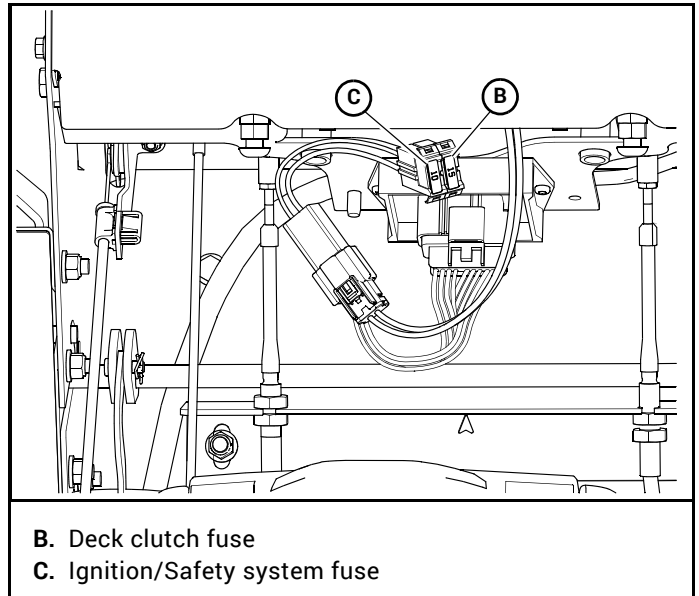

Figure 4-2
- B. Deck clutch fuse (15 amp)** – This fuse protects the deck clutch. It is located under the right front of the control panel. Figure 4-2
- C. Ignition/Safety system fuse (10 amp)** – This fuse protects the ignition and safety circuit components. It is located under the right front of the control panel. Figure 4-2